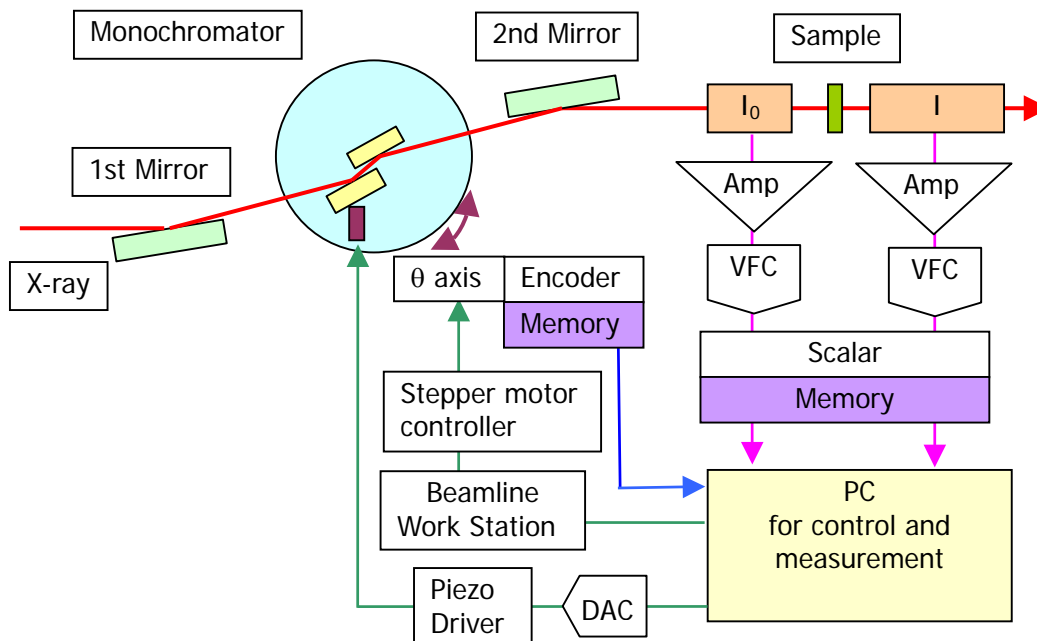

Fig. 2 Control system of QXAFS measurement system in transmission mode
- Fine adjustment of slits and mirrors in the optics hutch is done by measuring x-ray intensity using 1st ionization chamber in the experimental hutch (Fig. 2).
- The arrangement and control system for transmission mode Quick XAFS measurements are shown in Fig. 2.